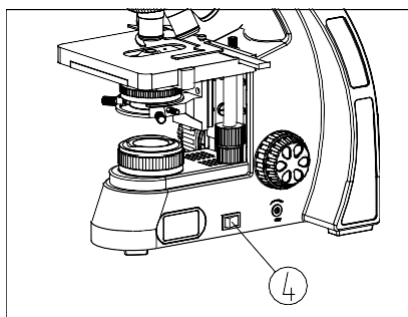

Fig. 3
4. For safety, make sure the power switch ④ is at “O” (off) and power it off before replacing the LED lamp, and wait until the lamp and base cool down completely (see Fig. 3).